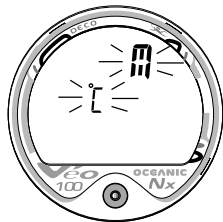

Fig. 21 - SET UNITS OF MEASURE
- After having set and accepted Wet Activation, the Set Units screen appears with the Set Point flashing (Fig. 21).